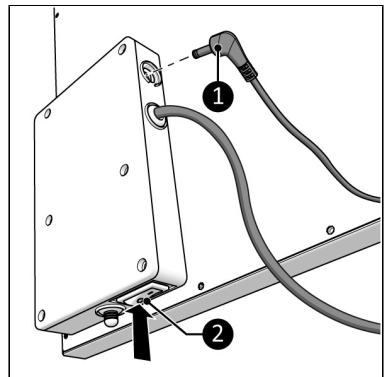

Figure 44.
1. Make sure the ON/OFF switch is in the OFF position (Figure 44, pos. 2).
2. Connect the external temperature sensor connector (Figure 44, pos. 1) to the sensor plug.